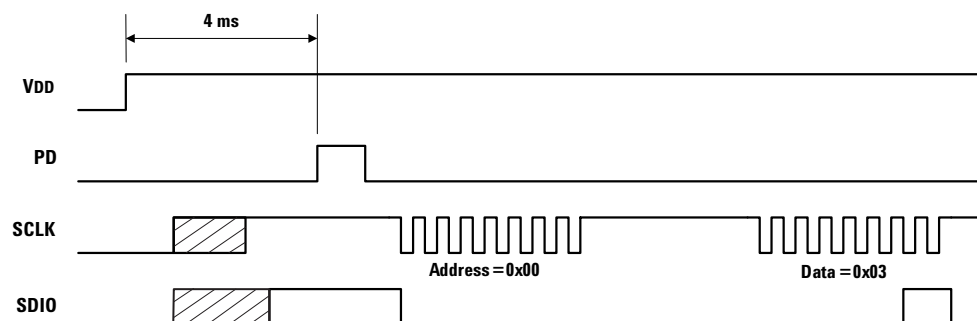

Figure 36. Power up serial port PD sync sequence.
2. PD Sync (Refer to Figure 36.)